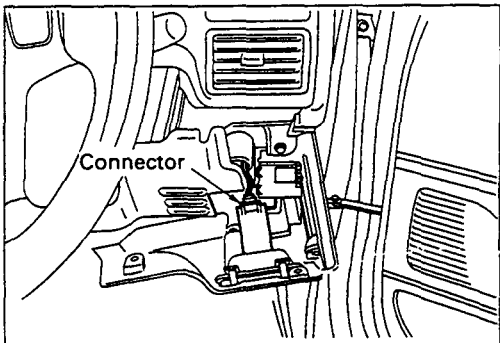

Fig.4
- Disconnect the connector of the illumination. (Fig.4)